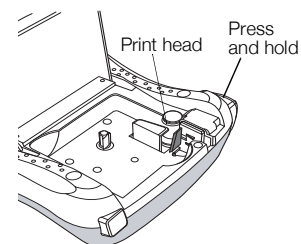

Figure 6
- 2 Press and hold the cutter button to expose the cutter blade. See Figure 6.
- 4 Gently wipe the padded side of the tool across the print head. See Figure 6.